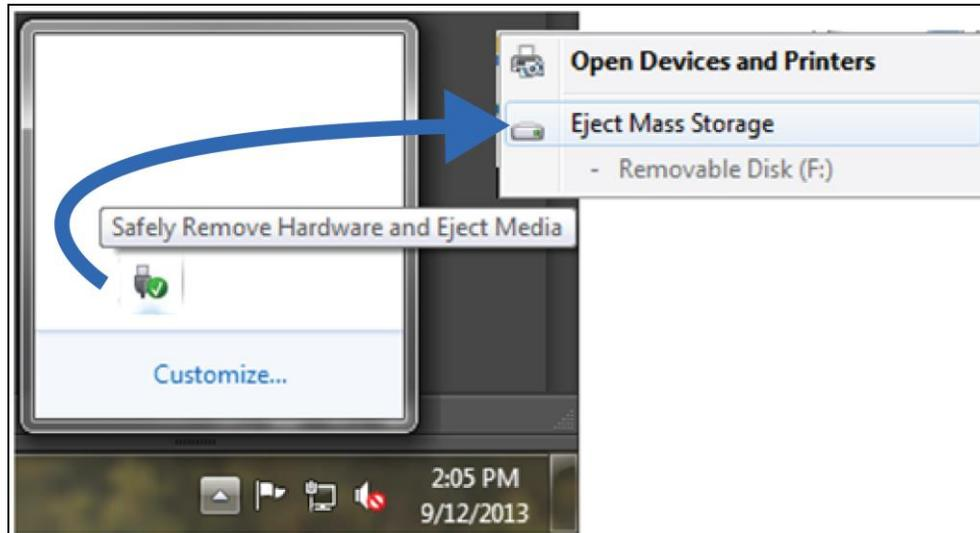

Figure 43 - "Eject Mass Storage" option
4. Remove the USB drive by selecting "Eject Mass Storage" from the System Tray options (Figure 43) and then taking the flash drive out of the USB port. If an error appears, make sure that all files have finished copying and that any windows showing the USB drive or its contents have been closed.